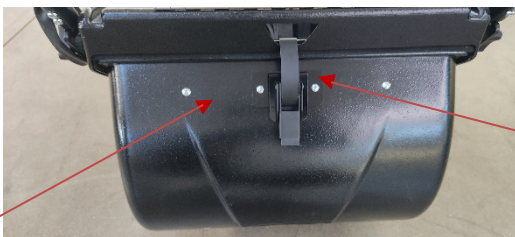

Figure 4.10
- Unlock the retaining clamp (figure 4.10)
- Empty the hopper (figure 4.10).in the appropriate refuse bin